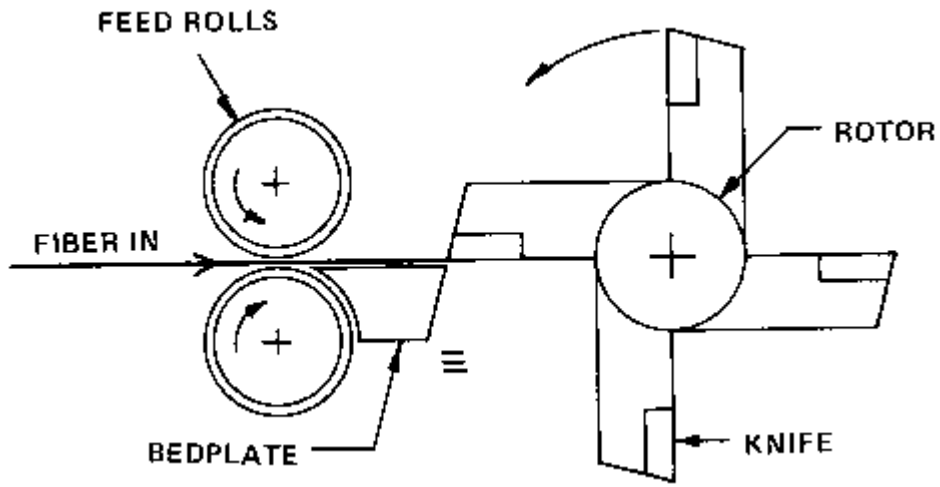

Figure 12
1. **Knife and bedplate:** See Figure 12. In this method, fiber is fed between rollers over a bedplate, and a rotating knife shears close beside the bedplate edge to cut the moving fiber. Several cutter types which espouse this oldest method of cutting are Taylor-Stiles, Peter Brotherhood, Pekrun, Mitsuishita, and Beria. Boy Scouts start fires by striking flints together; two pieces of hardened metal are little different. The disadvantages are impact (alligator) cut, multiple lengths, fluttering feed, and fused fibers.